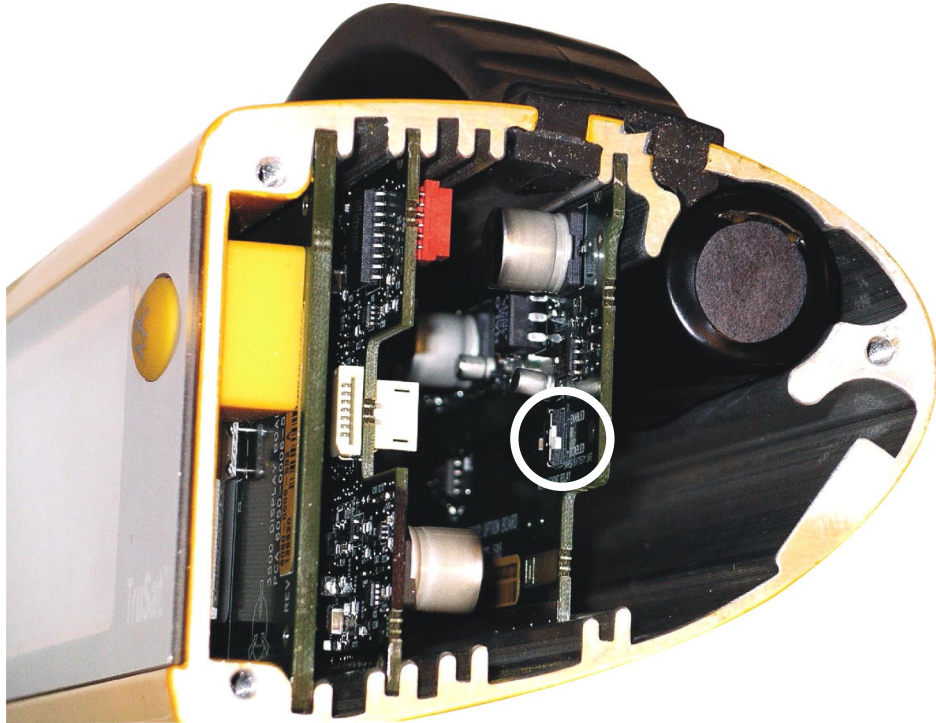

Figure 4-4. Alarm event relay switch (S1) in the DISABLED position
4. Locate the alarm event relay switch on the Trend Download board. It is circled in Figure 4-4. Gently move the white lever to the ENABLED position.